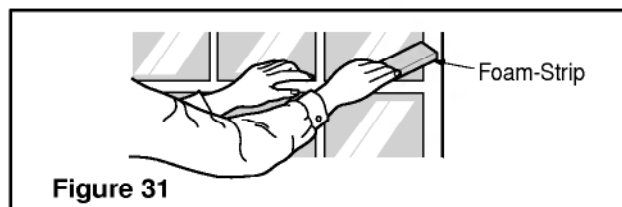

Figure 31
8. Cut the Foam-strip to the proper length and insert between the upper window sash and the lower window sash. (See Fig. 31)